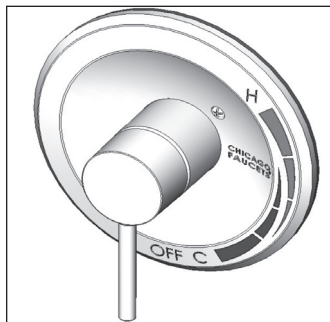

Figure 6
7. Rotate the handle in the counter-clockwise direction and it should stop near the position of the "H" on the escutcheon plate. Then rotate the handle in the clockwise direction and it should come to a stop at the "C" location on the escutcheon plate (see **Figure 6**).